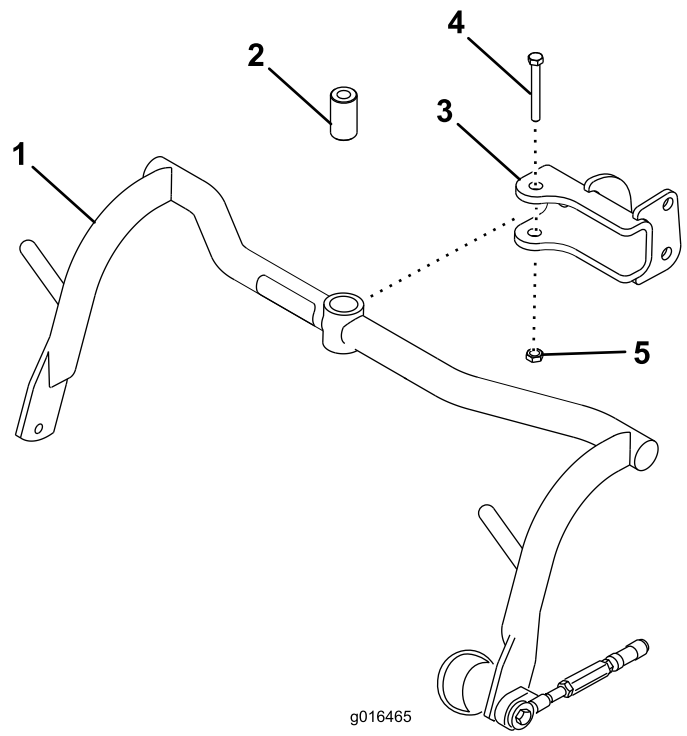

Figure 8
1. Mount a carrier frame assembly to each clevis with a spacer, 1/2 x 3-1/4 inch bolt and 1/2 inch lock nut (Figure 8). Torque to 67-83 ft-lb (91-113 N-m).